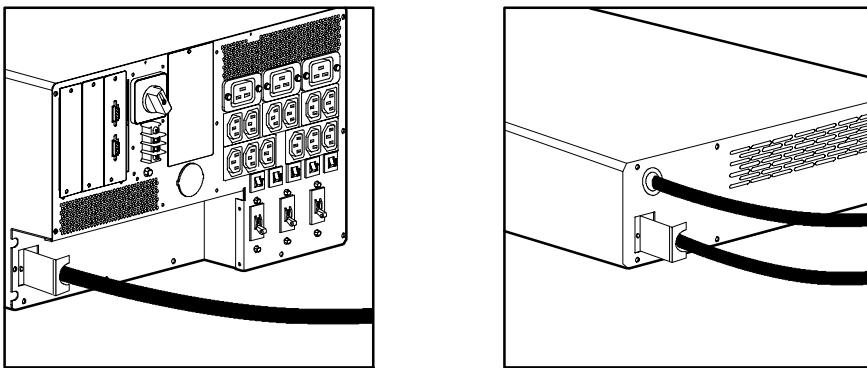

Figure 7. Securing the EBM Cables
4. Use the screw removed in Step 2 to secure the EBM cable by attaching the retaining bracket provided in the kit (see Figure 7).